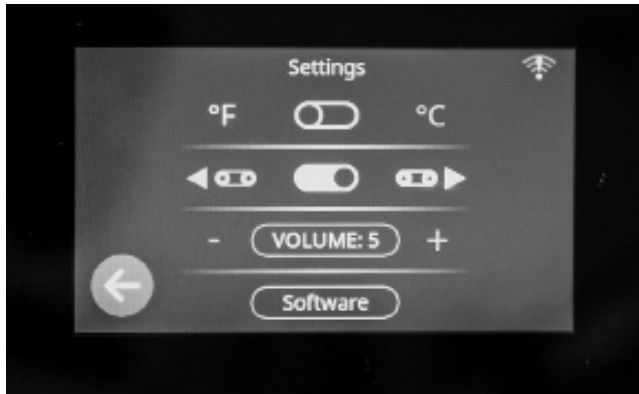

Figure 15
3. Temperature Measure - Touch the white circle in the oval button on the Settings display that shows the temperature measure. The Fahrenheit or Celsius symbol will change to correspond to the desired temperature unit of measure. (Figure 15)